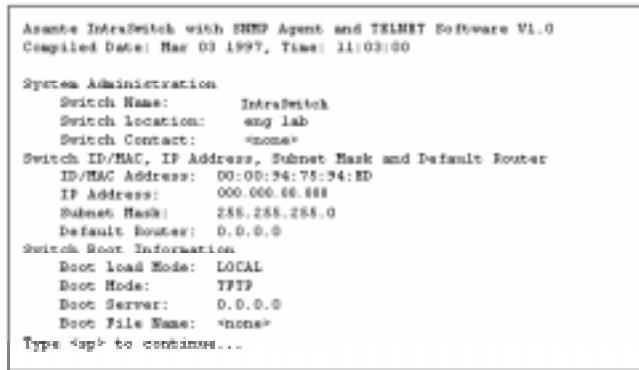

Figure 6-1 General Information Menu
- 2 Type **g** from the Main Menu. A screen similar to Figure 6-1 appears.